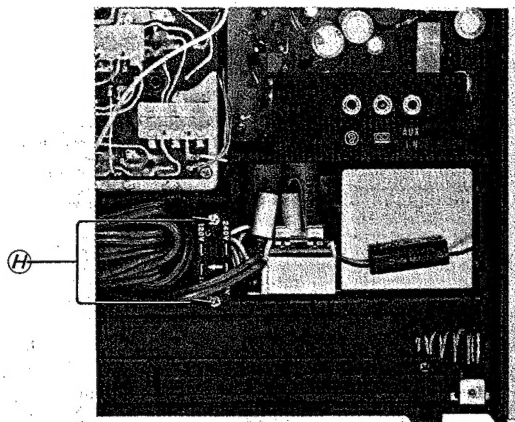

Fig. 2-11 Power circuit board removal, step 5
5. Remove the two screws labeled (H) in Fig. 2-11.